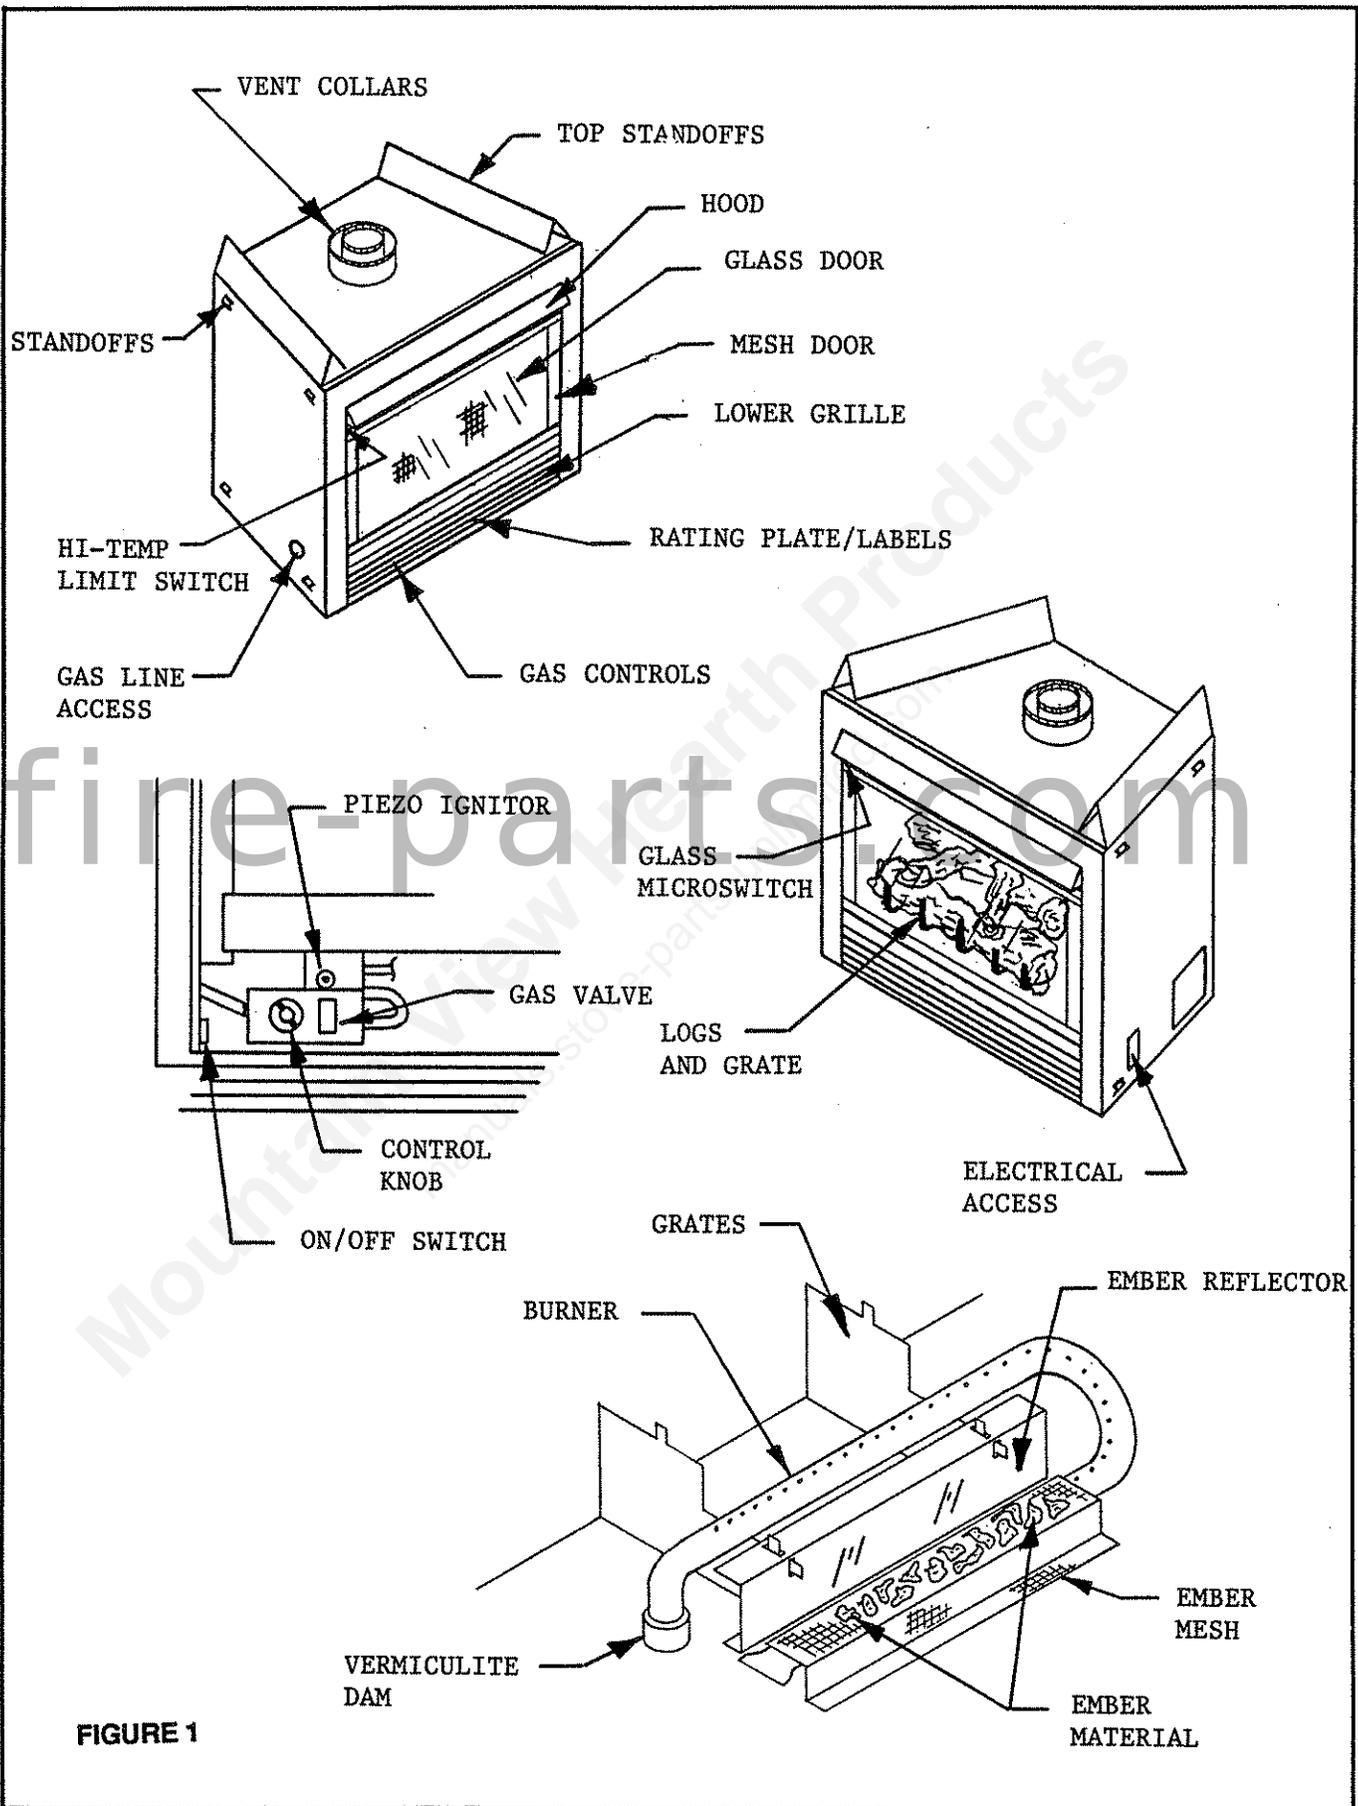

FIGURE 1
The control system for Model 6000DVT is a millivolt type. It consists of a gas control valve/regulator, a standing pilot assembly, a thermopile, a piezo ignitor, an ON/OFF rocker switch, a safety high temperature limit switch, and a safety microswitch for the sealed glass door. The controls are located in the lower compartment behind the mesh trim door of the fireplace. Access to this compartment is gained by rotating up the bottom panel of the trim door. See Figure 1.
Open the bag of vermiculite and spread it evenly on the bottom of the firebox making sure not to block the air hole at the base of the burner. (See Figure 1).
**CAUTION:** No vermiculite can be present in the area surrounded by the vermiculite dam at the base of the burner. (See Figure 1).
Carefully spread a single layer of dime size and shape pieces of ember material (found in a separate bag) uniformly over the upper portion of the lower burner ember shield (Figure 1). The excess ember material should be used as replacement material during the annual servicing. **IT IS MOST IMPORTANT TO FLATTEN THE EMBER MATERIAL NO THICKER THAN A DIME.**